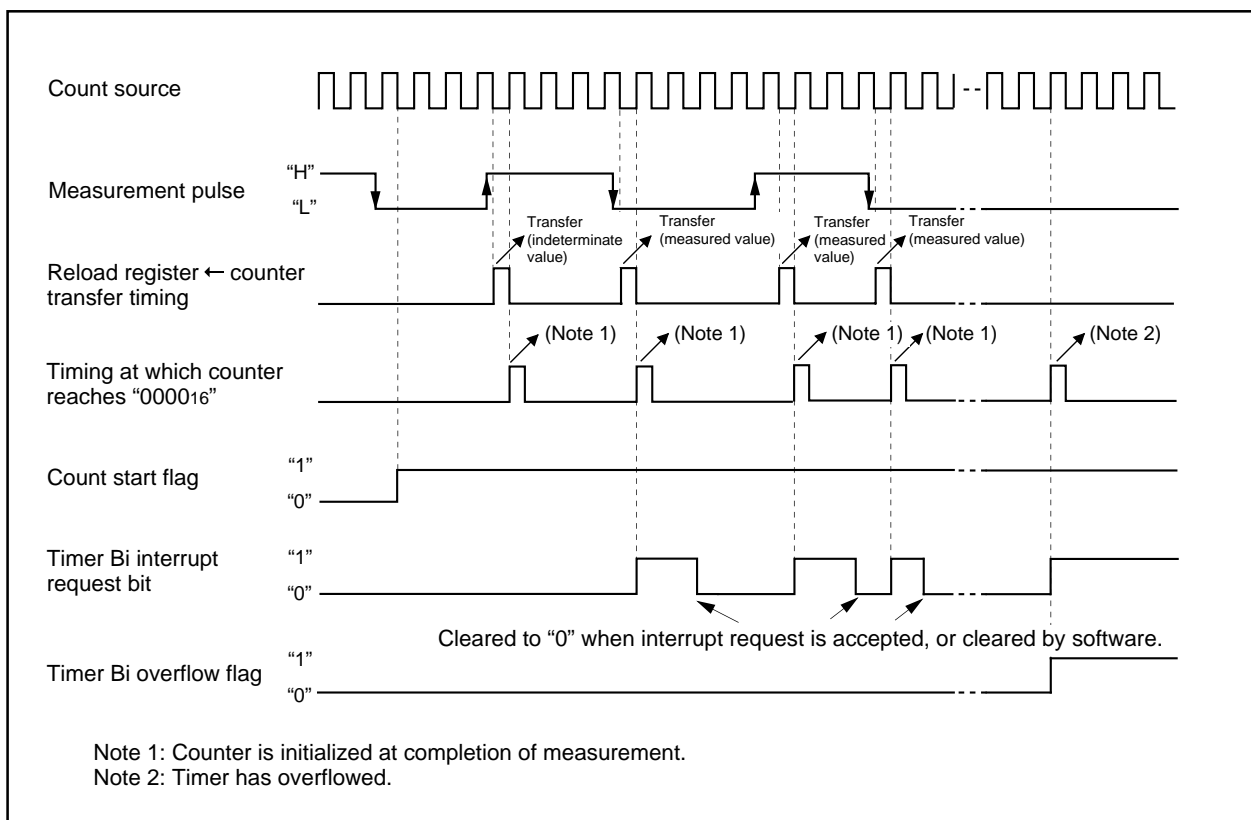

Figure 1.14.21. Operation timing when measuring a pulse width
1.14.20 shows the operation timing when measuring a pulse period. Figure 1.14.21 shows the operation timing when measuring a pulse width.